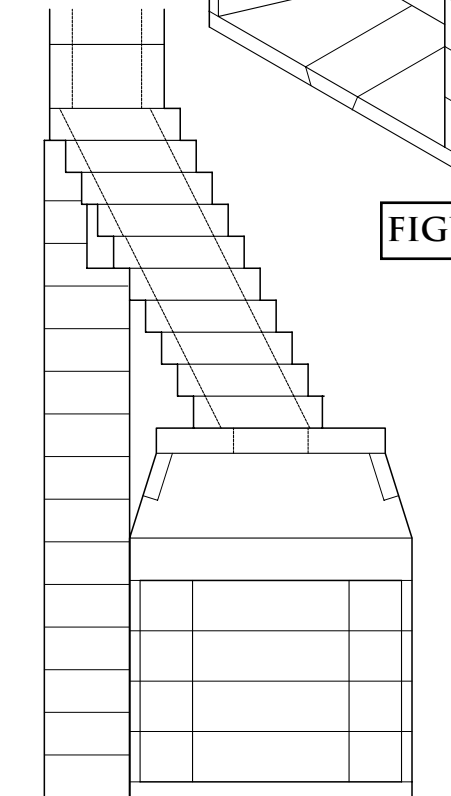

FIGURE 96
**NOTE: For offset chimney block sequences that clear the side wall of the firebox below, it is allowable to support the first offset block that clears the the firebox side wall and then to proceed with supports at each third offset block thereafter. (Figure 96)**